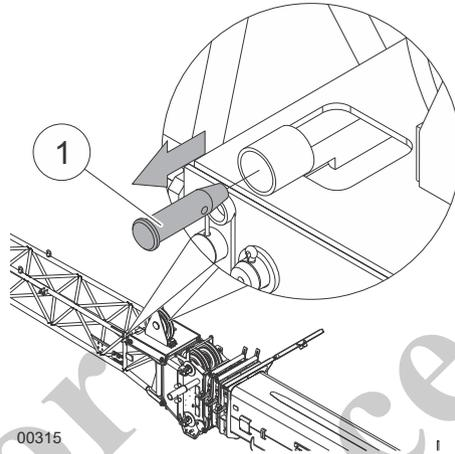

Fig. 155 Removing the bolts from the fly boom
- 7 Remove both bolts (1) in Fig. 155 on the fly boom from the positions shown. Do not push the fly boom into the ground.